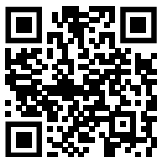

Fig. 155
- Åbn Liebherr SmartMonitoring Dashboard. (se Fig. 155)